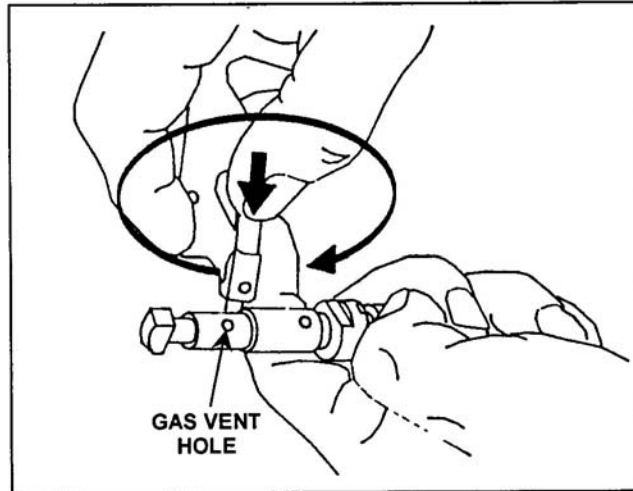

Figure 15. Cleaning of the gas vent hole.
- (1) Clean the gas vent hole (Figure 15).